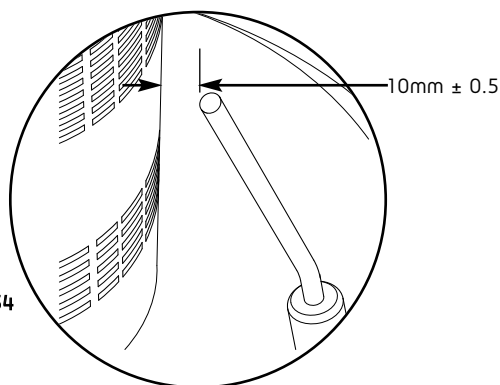

Fig. 54
3. Check the condition of the sealing gaskets and replace if necessary. Reassemble in reverse order and then check that the electrode gaps are as shown in Fig. 54 & 55.